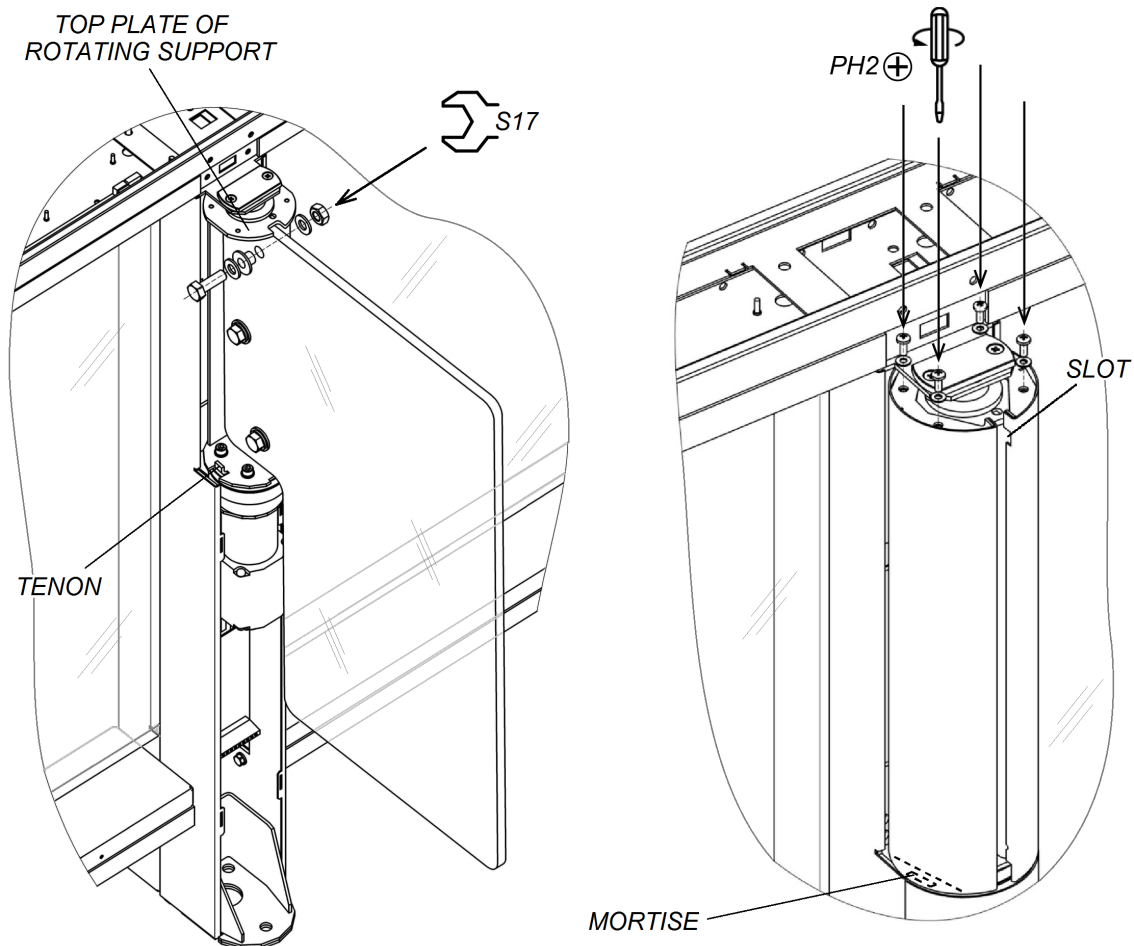

Figure. 21 Swing panel and its cover plate
22. Unpack the glass swing panels (4) and mount them (Fig. 21, Sect.8.9.3).
23. Mount swing panel cover plate (3) from installation kit (Fig. 21, Sect.8.9.4).
24. Mount front panels (10) (Sect. 8.9.2). After installation make sure that the top edges of the panels are flush with the section housing.
Two people shall install and remove the swing panels. The swing panel is fixed to the rotating support in three places with M10×30 bolts, 10 washers, plastic bushing and M10 screws (Fig. 21). Use S17 open end wrenches.
2. Assemble one of the cover plate components on the rotating support. In order to do that, mount the cover plate on the upper plate of the rotating support through the slots in the upper part of the cover plate. After that, shift the cover plate down to the end, mounting the bottom cover plate mortise into a tenon, located in the bottom part of the rotating support (Fig. 21).